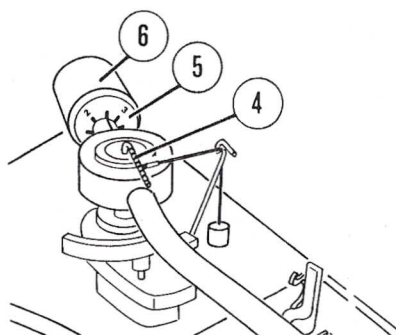

Fig.5. Justering av stiftrykk
1.5 Balansevekt (fig. 5)
1.5 Balance weight (fig. 5)
- Turn the turntable in the playing direction as the start/stop lever (13) is moved to START. The start phase will then begin and the cueing lever will lower itself.
- Hold the weight in position while just the scale ring (5) is turned until the 0 mark corresponds with the mark on the arm. Then turn the balance weight until the scale shows the prescribed stylus pressure, in this case 2.5 g. (The scale goes from 0-4 grams)
1.6 Antiskating-vekt, fig. 5
- Skalaarmen for antiskating (4) har riller, og hver rille representerer 0,5 gram.
- Legg antiskatingvektens nylontråd over bøylen (se fig.) og tre løkken inn på skalaarmen (4).
- Hev (∇), og senk (∇) pickupen med tonearmsløfteren (14).
1.6 Anti-skating weight, fig. 5
- The scale arm for anti-skating (4) has grooves and each groove represents 0.5 gram.
- Lay the anti-skating weight nylon thread over the hoop (see fig.) and thread the loop onto the scale arm (4).